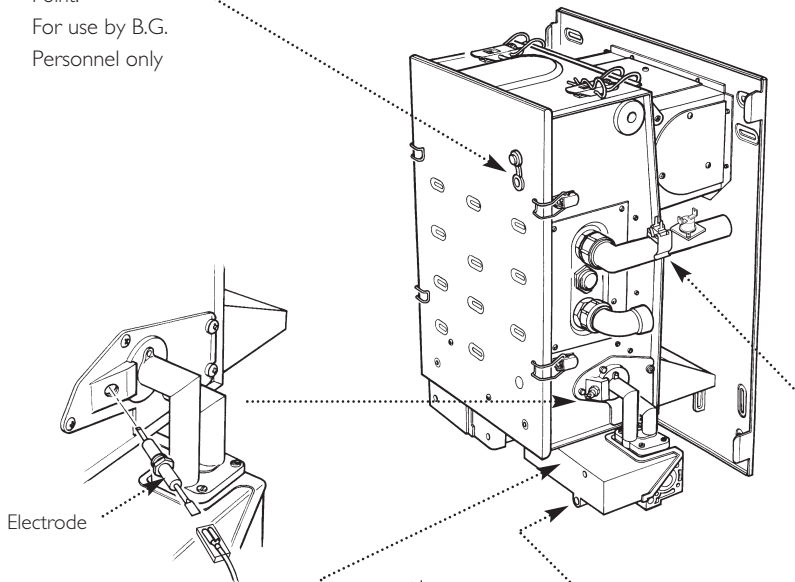

Fig. 114
10.3 Ignition Electrode (Fig. 114)